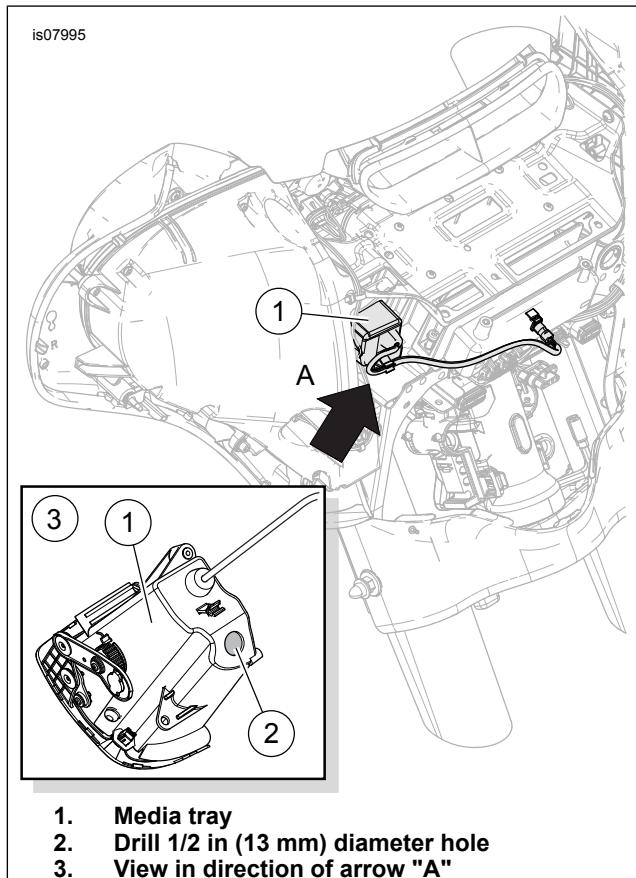
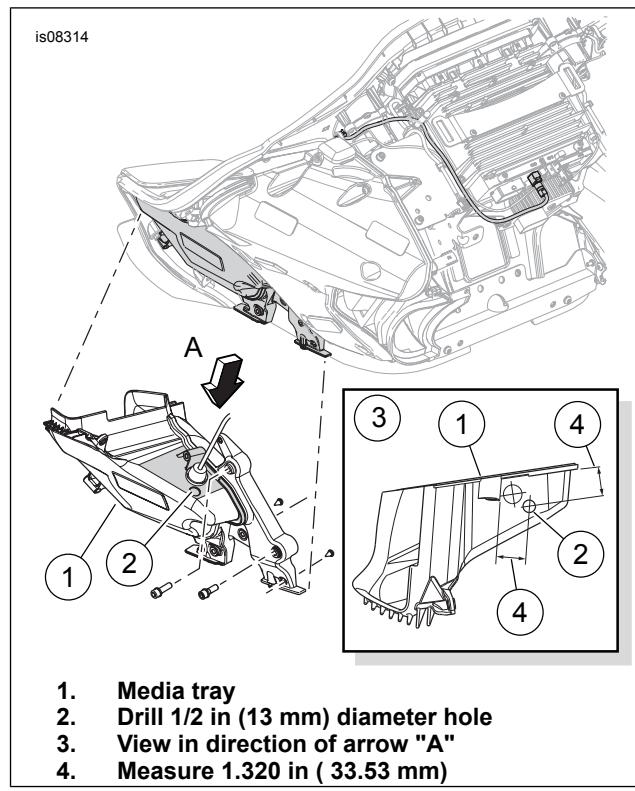

Figure 1. Drill Hole in Media Compartment (FLH Models)
Figure 2. Drill Hole in Media Compartment (FLT Models)
4. **If locating an audio source IN THE MEDIA TRAY**, see Figure 1 or Figure 2. **If using with a Zumo GPS unit as an AUDIO source for voice prompts or audio:** Connect the open end of the audio jack jumper cable to the mating Zumo harness connector marked "AUDIO IN".
- a. See the service manual. Remove the media tray (1).
- b. Drill a 13 mm (½ in) diameter hole (2) in the location shown.